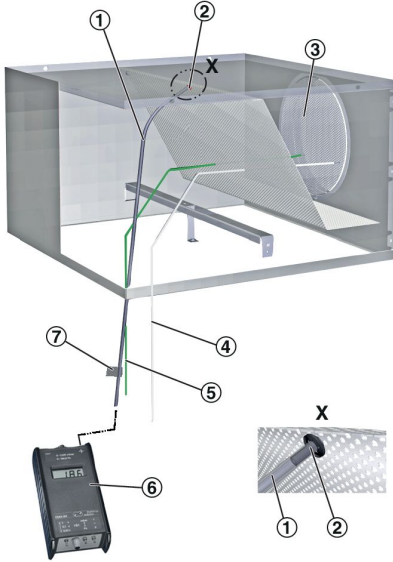

Fig. 16: Volume flow rate measurement
- ① Measuring tube
- ② Pressure tap
- ③ Damper blade for volume flow rate balancing
- ④ White cord for opening the damper blade
- ⑤ Green cord for closing the damper blade
- ⑥ Digital manometer
- ⑦ Text label indicating plenum box variant
3. ▶ Read the volume flow rate from the characteristic curve or calculate it; each AK-Uni plenum box comes with a characteristic curve. The plenum box variant is given on the text label (Fig. 16/7).